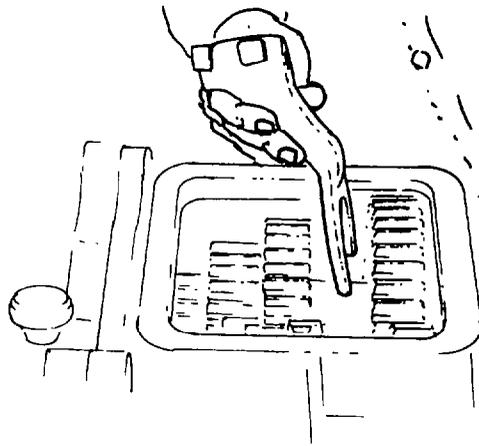

Fig. 214 — Installing Fourth/Fifth Gear Selector Fork
- ag. Start the fourth/fifth gear selector shaft in the hole provided in the front of the case. Install the fourth/fifth gear selector fork in the groove of the fourth/fifth sliding clutch (see fig. 214). Feed the selector shaft through the fork and the intermediate bore of the case until it reaches neutral position. Install the fork locating screw and torque to 47 – 61 Nm (35 – 45 lb.ft).